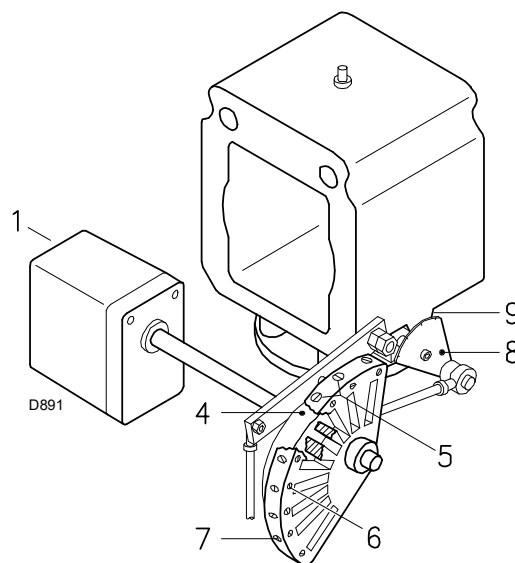

Fig. 27
Progressively adjust the end profile of cam 4)(Fig. 27) by turning the screws 7).
Key (Fig. 27)
Progressively adjust the initial profile of the cam 4)(Fig. 27, page 25) by turning the screws 5).
- release the cam 4)(Fig. 27, page 25) from the servomotor by pressing (and moving to the right) the release button on the servomotor;
- Once optimum adjustment has been reached, fix it with the screws 6)(Fig. 27, page 25).